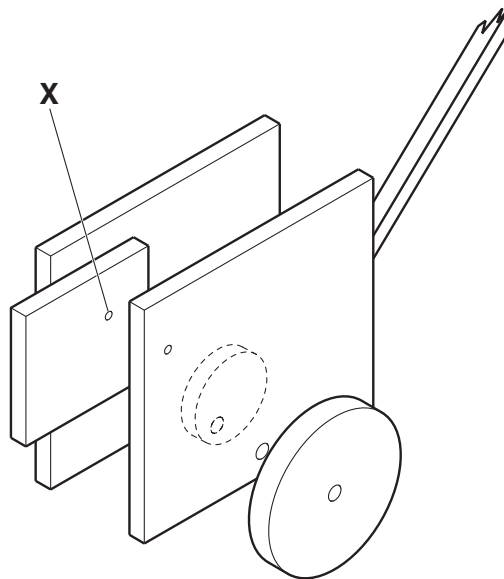

Fig. 12
- (d) A pictorial view of the main components of the push along toy is shown in Fig. 12.